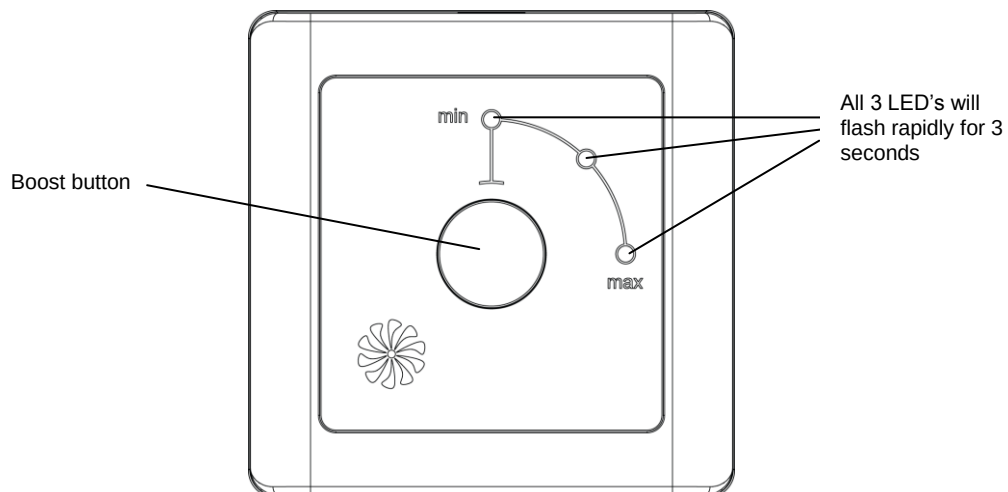

Figure 29 – GRF2 Successful De-Registration
- Upon successful de-registration of the GRF2, the controller will flash rapidly for approximately 3 seconds (See Figure 29).